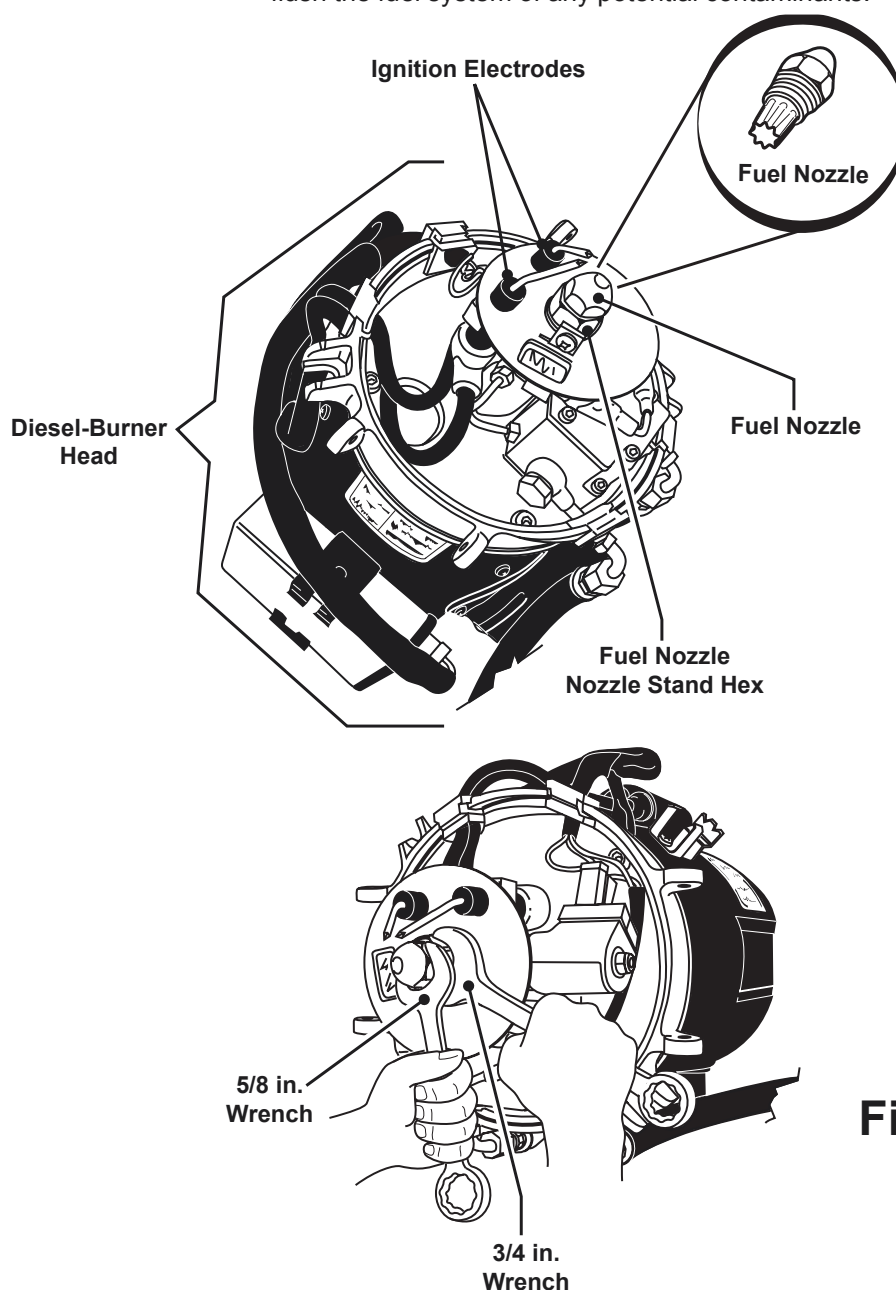
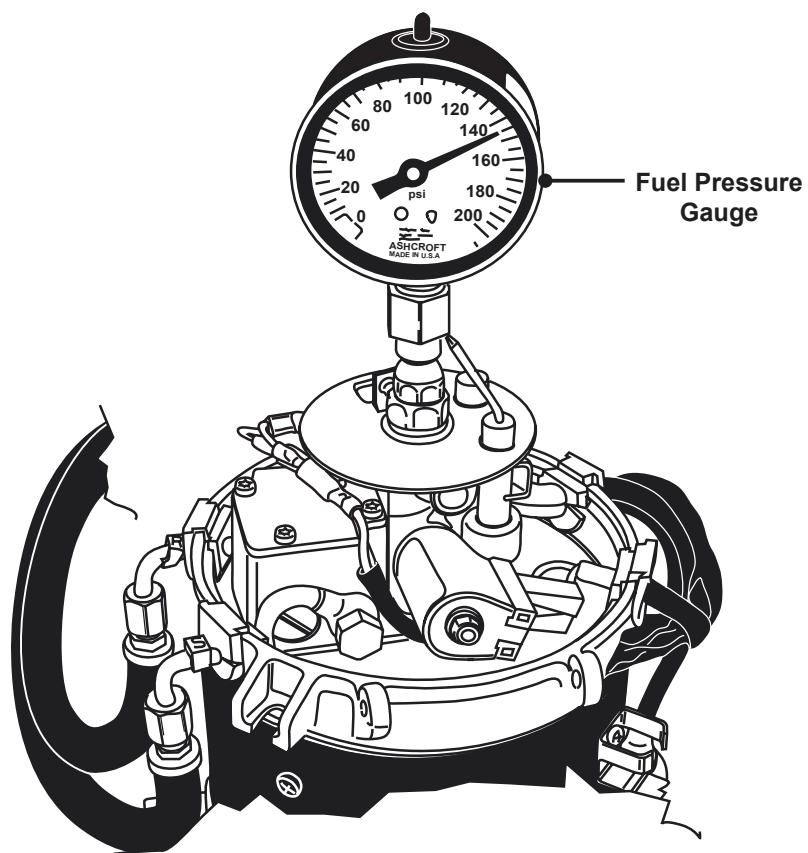

Figure 17
Figure 20
2. Place the *Electrode Adjustment Gauge* on the *Nozzle Stand Hex* (reference Figure 17) and insert the metal tips of the *Ignition Elec-*
1. Use a 3/4 in. wrench to hold the *Fuel Nozzle Stand Hex* while loosening the *Fuel Nozzle* with a 5/8 in. wrench, reference Figure 17.
A: A *Fuel Pressure Gauge* (reference Section 11 for special tools information) is used to properly check the Fuel Pump's pressure setting, reference Figure 20. The *Fuel Pump* is preset to 145 psi (the pressure required for proper fuel atomization at the *Fuel Nozzle*). Perform the following procedures to check for a proper fuel pressure setting.
1. Remove the *Fuel Nozzle* (reference Figure 17) and replace it with the *Fuel Pressure Gauge*, reference Figure 20.